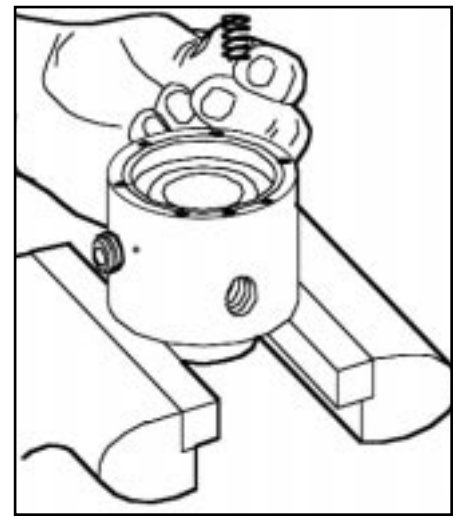

Figure 12
5. Then remove the middle spring. (Fig.12)